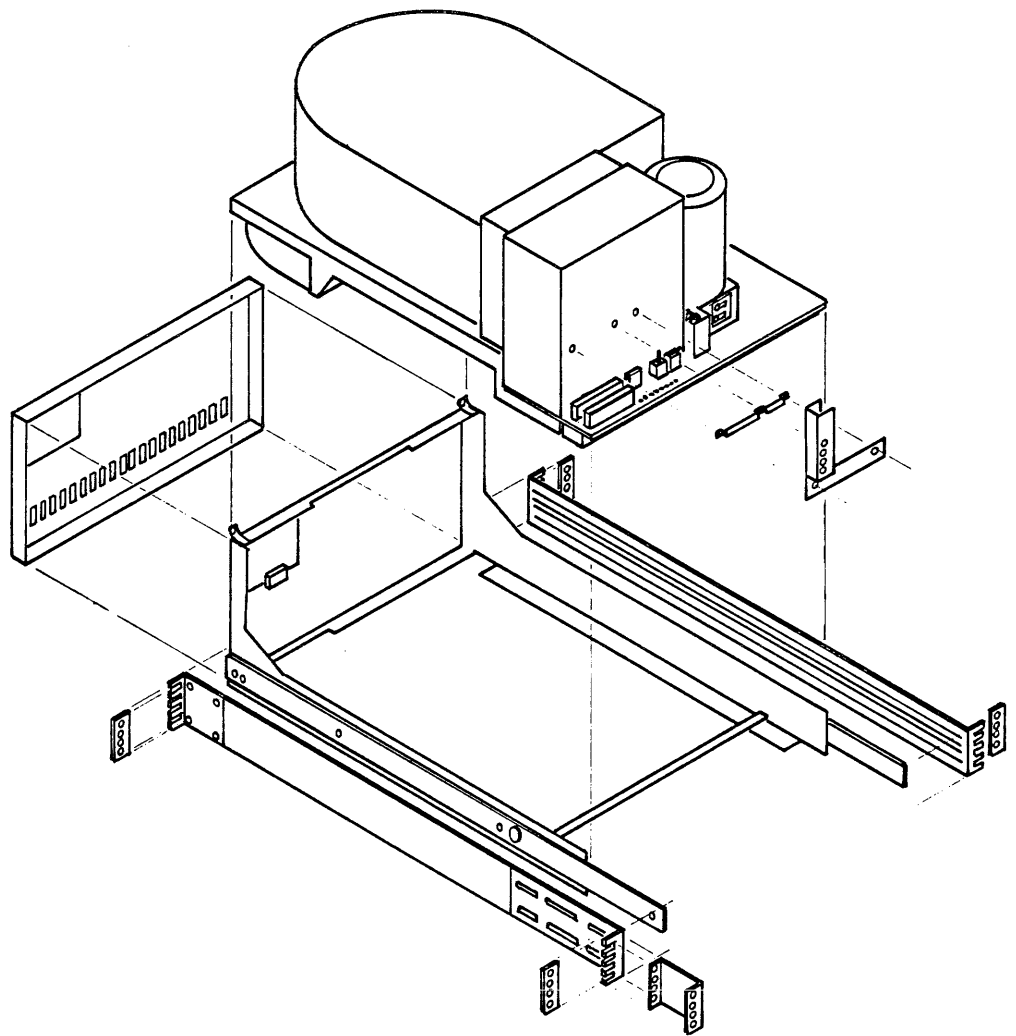
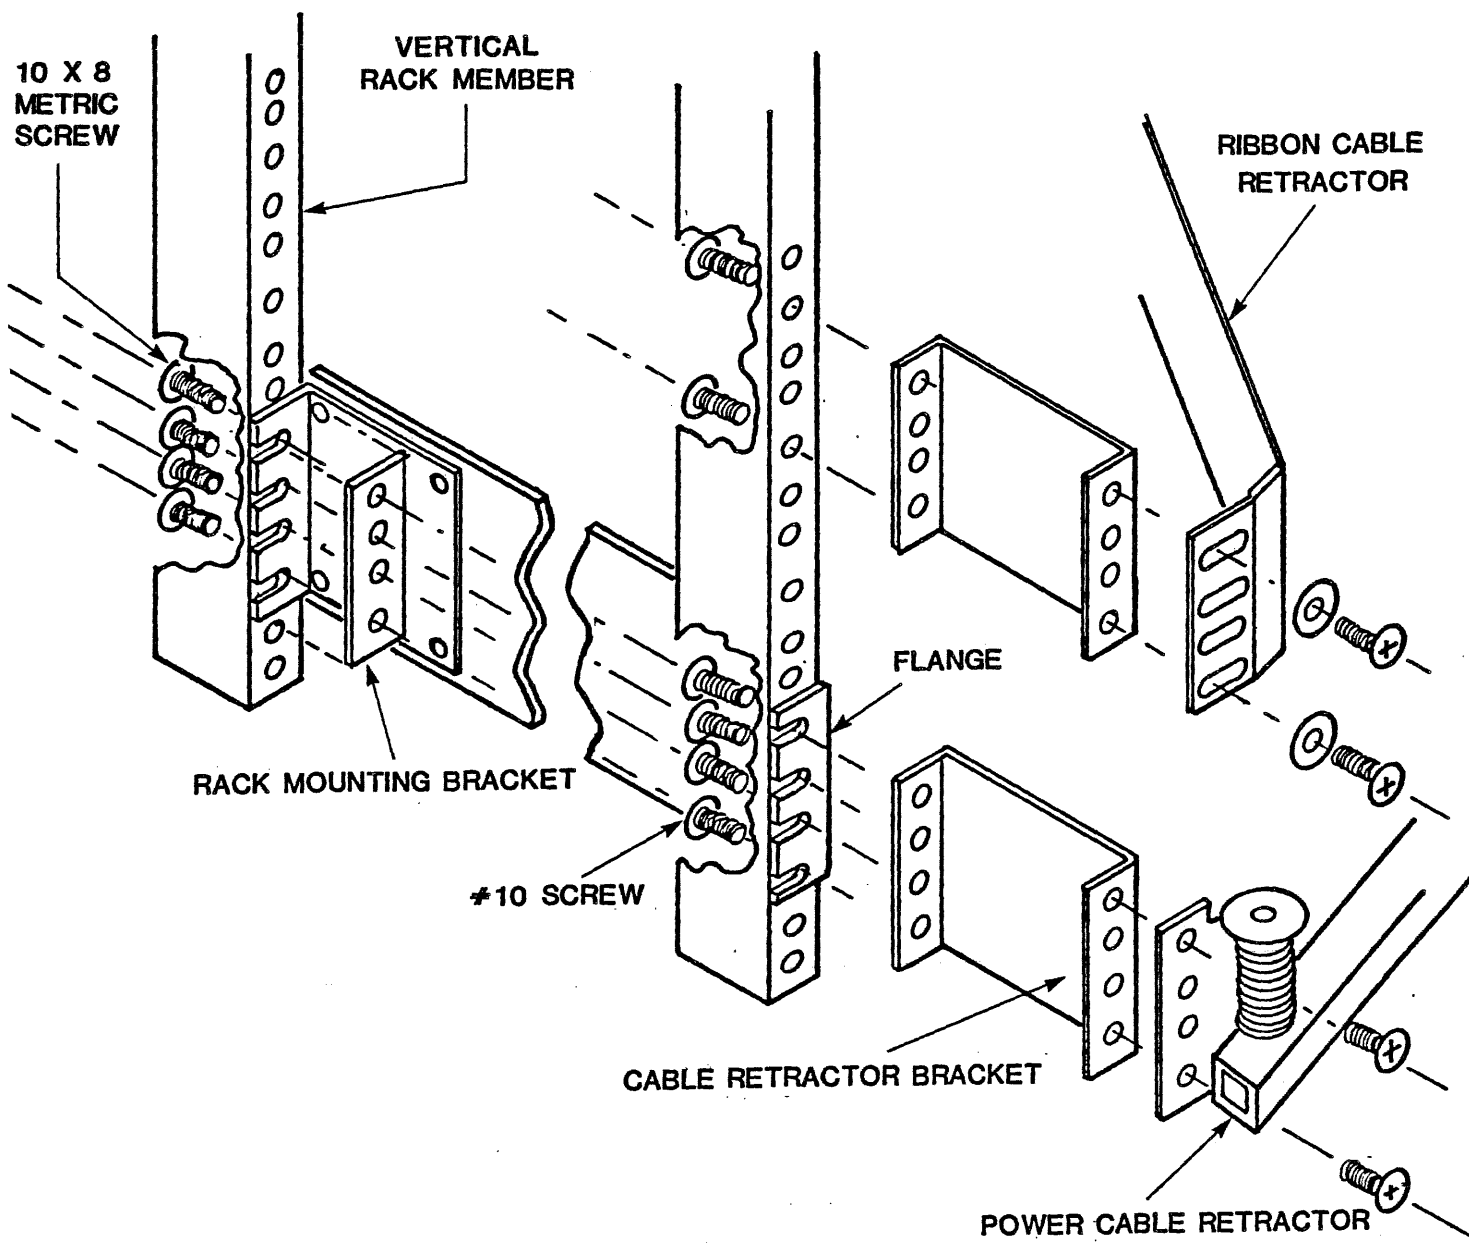

Fig 1
Fig. 2
3. Remove front panel from the operator panel/slide assembly (also known as the cradle-- shown in Figure 1), which is furnished in the kit.
4. Remove the four rack mounting brackets (see Figure 1) from the rails. They are held on with four screws each.
5. Slide the rails to the rear of the cradle until they stop. Unlock the rails by depressing the release buttons (see Figure 1), and then slide the rails the rest of the way off the cradle.
6. Mount the rails in the System 64 cabinet. Rails must be mounted so that the flanges go behind the vertical, perforated rack members (when viewed from the front as shown in Figure 2). The bottom notch of the rail flange should be fastened through the third hole from the floor of the cabinet. The flange brackets (see Figure 1) are threaded and go behind all except the right rear rail flanges (see Figure 2).
7. Place one of the cable retractor brackets (see Figure 1), which have been supplied in the installation kit, behind the right rear rail flange and mount it with four of the #10 screws (12678-506, MDS #041052601) supplied in the kit (see Figure 2).
8. Count five holes up on the right rear vertical rack member. Skip the five holes and mount the second cable retractor bracket using two of the #10 screws as shown in Figure 2.
10. Remove the cradle from the rails by pulling the cradle until the safety latches lock it into place. Release the safety latches by depressing the buttons (see Figure 1) and continue to pull the cradle the rest of the way out of the cabinet.
19. Install the cable retractors as shown in Figure 2. The ribbon cable retractor goes on the upper bracket (use two flat washers #10502-003, MDS #041133201 as shown in Figure 2).
20. Mount the disc drive cable retractor bracket (see Figure 1) on to the disc drive with the screws from the ribbon cable strain relief. Notice in Figure 3 that the alternate bracket must be used if the drive cardcage does not have a screw hole on the upper left corner.